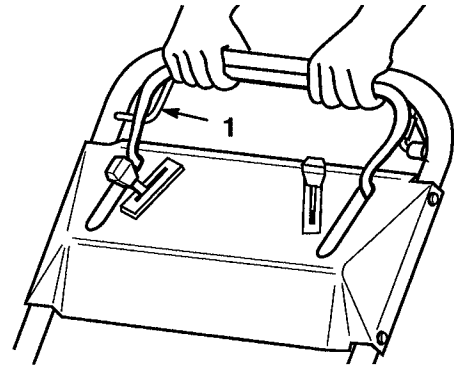

Figure 16
3. To operate self-propelled drive squeeze self-propelled bail against handle and hold (Fig. 16).